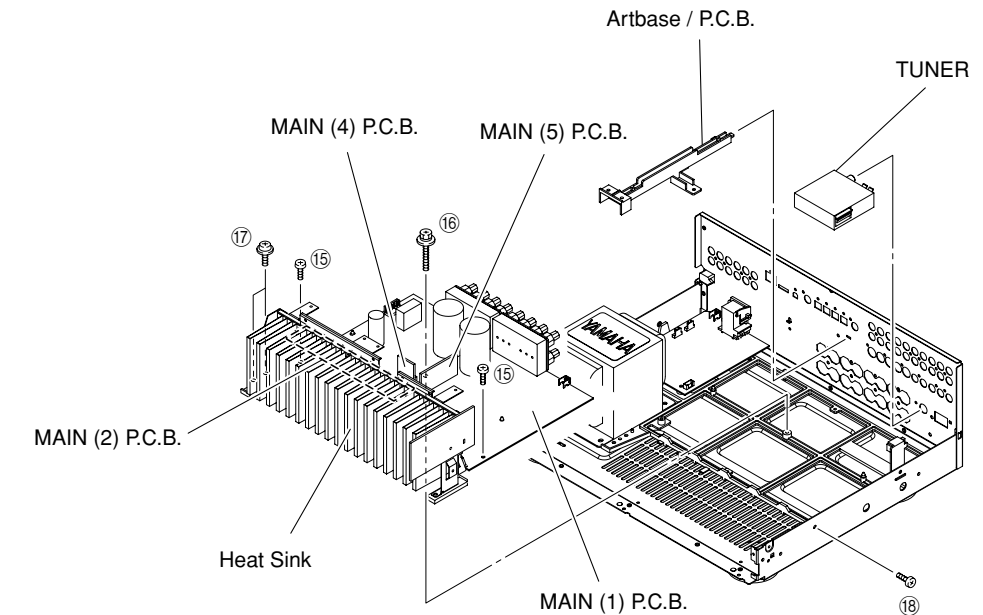

Fig. 5
- b. Remove the TUNER. (Fig. 5)
**8. Removal of MAIN (1), (2), (4) and (5) P.C.B.s**
- a. Remove the Artbase/P.C.B.. (Fig. 5)
- b. Remove 2 screws (15), 1 screw (16), 2 screws (17) and 1 screw (18). (Fig. 5)
- e. Remove MAIN (1), (2), (4) and (5) P.C.B.s together with the Heat Sink. (Fig. 5)